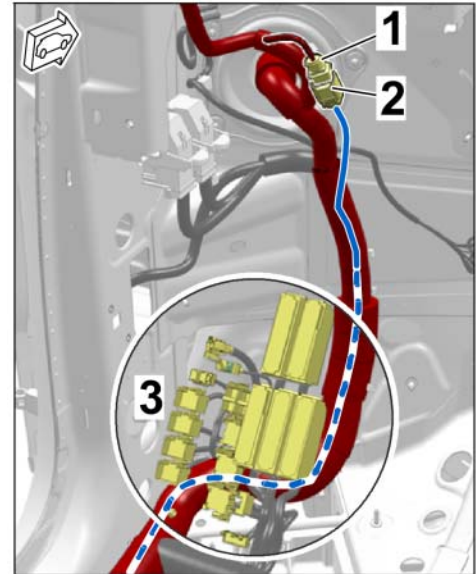

Figure 29
3.2.1 A-pillar area, left (⇒ Figure 29)